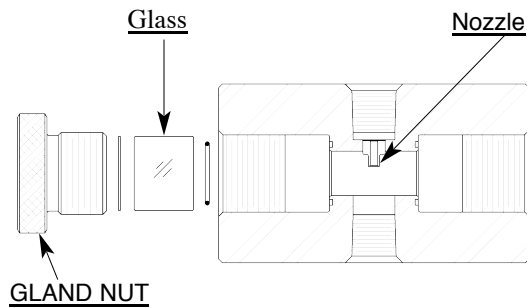

Fig. 1 Sight Feed Indicator (SFI) Assembly
- Check maximum pressure and temperature of service with ratings of the SFI (see Fig. 1). Do not exceed ratings of the SFI in service.